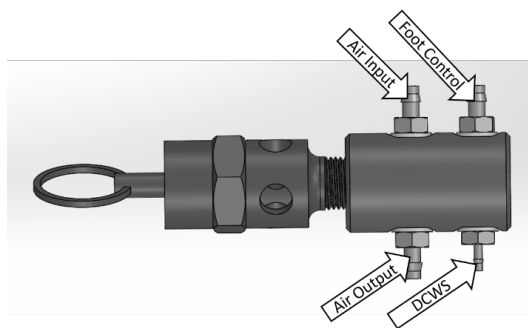

Fig. 5
- 5 Installing the new safety relief valve according to Fig. 5, use the provided sleeves when connecting the tubing. The foot control barb and the DCWS barb will not be used if the previous safety relief valve had only two connections; these will be plugged per step 3 above.